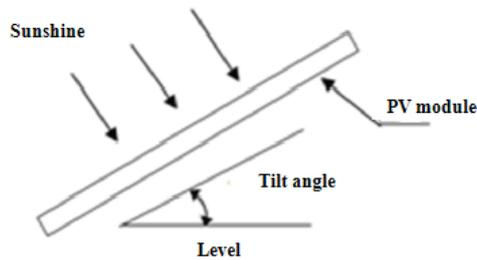

Figure 2 Module tilt angle
5.3.1 The tilt angle of the Modules is measured between the surface of the modules and a horizontal ground surface, the modules generates maximum power output when it faces the sun directly, as shown in figure 2.